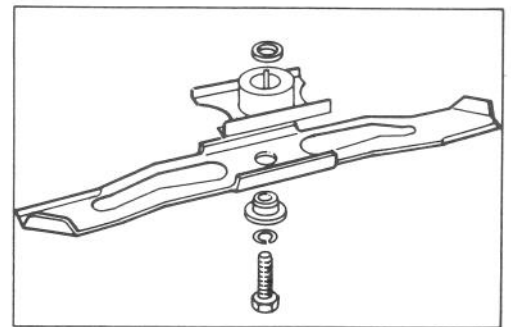

Figure 13
4. **REMOVING BLADE** — Grasp end of blade, not the plastic fan that can break, using a rag or thickly padded glove. Remove blade bolt, lock washer, spacer and blade (Fig. 13).